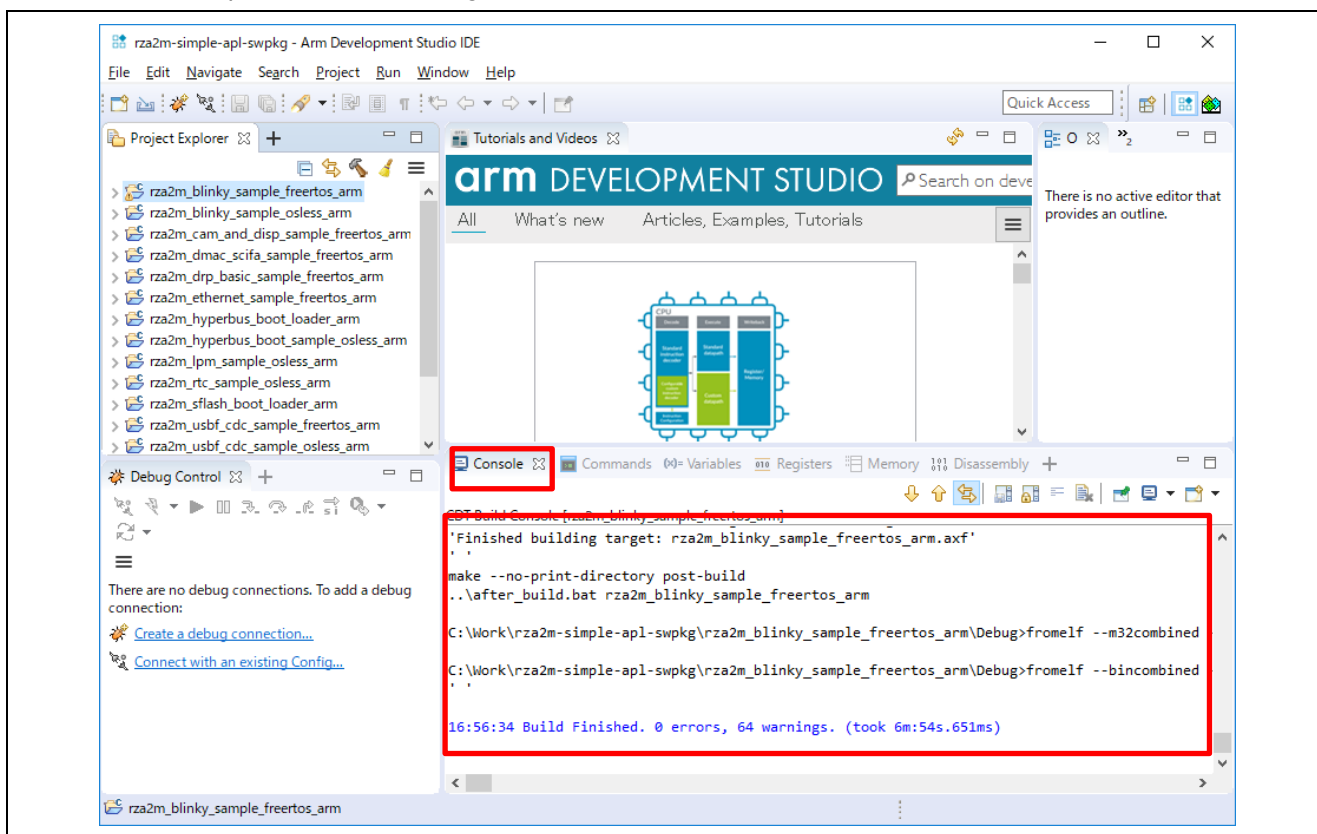

Figure 3-8 Confirmation build status
- Arm DS tool build the project, and the build status can be confirmed in Console window (Note: Please mind the length of your workspace path. If the path is too long, there is a possibility of build error.) This is shown in Figure 3-8.